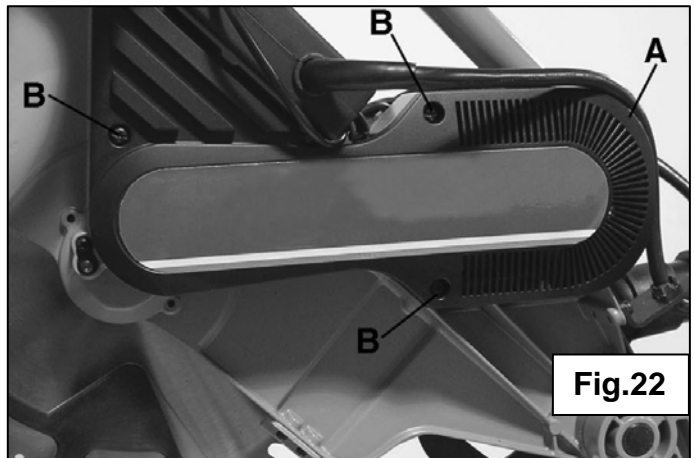

Fig.22
3. Unscrew and remove the three screws **(B)**. open the belt cover **(A) Fig.22**.
9. Reposition the belt cover. Insert and screw up the three screws **(A) Fig.22**.